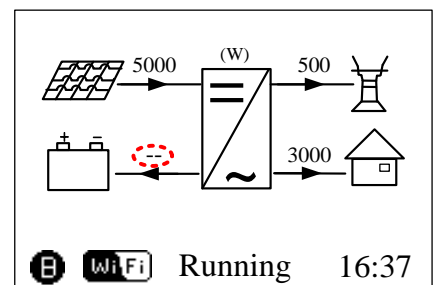

Figure 12 SH5K+ Home Screen
Step 3 Watch the SH5K+ home screen. If you see '--', the communication is not correctly connected (Figure 12). You should swap CANH and CANL of the CAN cable.